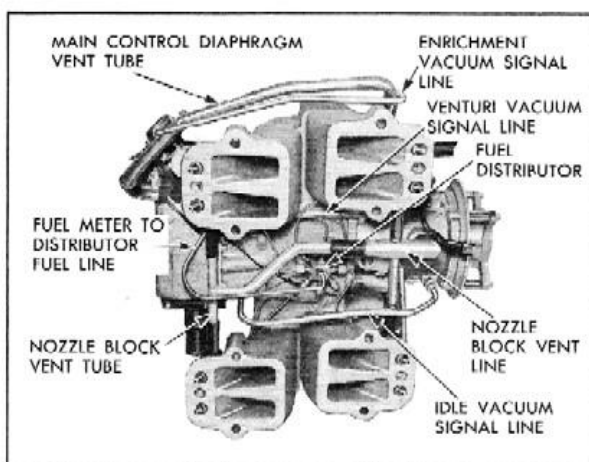

Fig. 9 Fuel and Nozzle Vent Lines
3. Remove the fuel meter-to-distributor fuel line, leaving the brass adaptor fitting installed in the fuel meter casing, Fig. 9. This fitting should not be removed from the fuel meter, unless replacement is required. Exercise caution in removing this line at fuel meter end. Tube extends through adaptor fitting into casting.